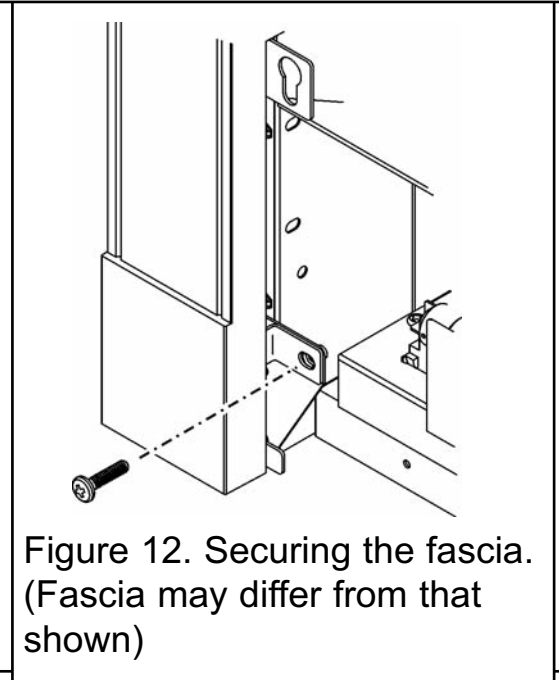

Figure 12. Securing the fascia. (Fascia may differ from that shown)
2. Secure the base of the fascia with two M4 x 25 screws (See figure 12).
4. Secure the base of the fascia with two M4 x 25 screws (See figure 12).